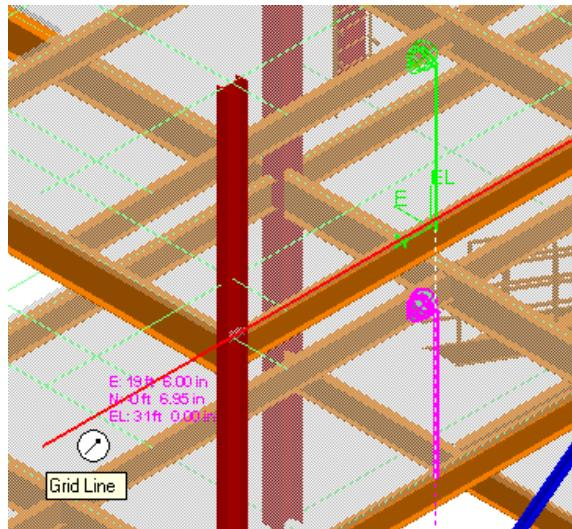

Figure 36: Cursor Position for the Paste Step
7. Position the cursor until you get the **Up SmartSketch glyph** which indicates you are aligned to the major Z axis. Click the **Middle Mouse button** to constraint the cursor movement along this axis. Then position the cursor to identify the gridline to get the correct elevation coordinate, as shown in Figure 36.